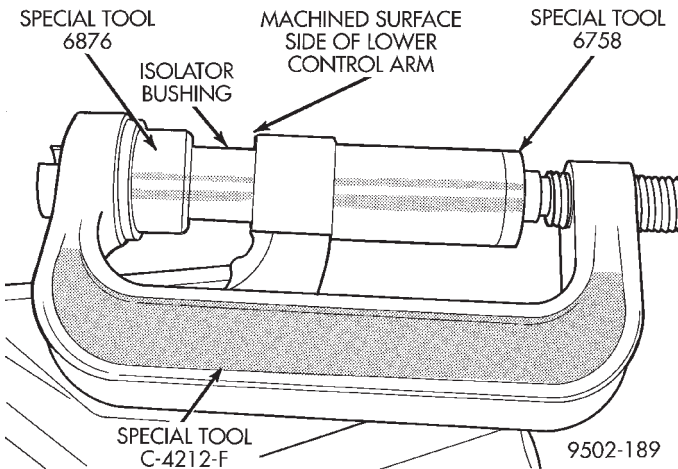

Fig. 88 Installing Front Bushing In Lower Control Arm
(1) Mount Bushing Installer, Special Tool 6876 on screw portion of Remover/Installer Special Tool C-4212-F (Fig. 88).
(2) Start front bushing into lower control arm **by hand, making sure it is square with its mounting hole in the lower control arm.** Bushing is to be installed in lower control arm from the machined surface side of lower control arm bushing hole.
(3) Install lower control arm on Special Tools assembled for installation of front isolator bushing into lower control arm (Fig. 88). Be sure Special Tool 6758 is square on lower control arm and Special Tool 6876 is positioned correctly on isolator bushing.